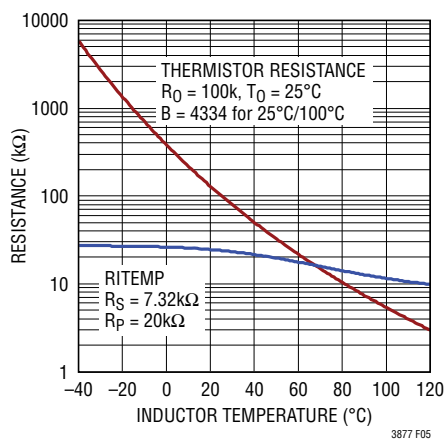

Figure 5. Resistance vs Temperature for ITEMP Pin Network with 100k NTC
- The LTC3874 and the LTC3877 have different relationships between the oscillator frequency and the voltage at their respective FREQ pins. Refer to Figure 5 in the LTC3874 data sheet. Bias the FREQ pins of LTC3874 and LTC3877 individually;
Figure 5 shows a typical resistance curve for a 100k thermistor and the ITEMP pin network over temperature.